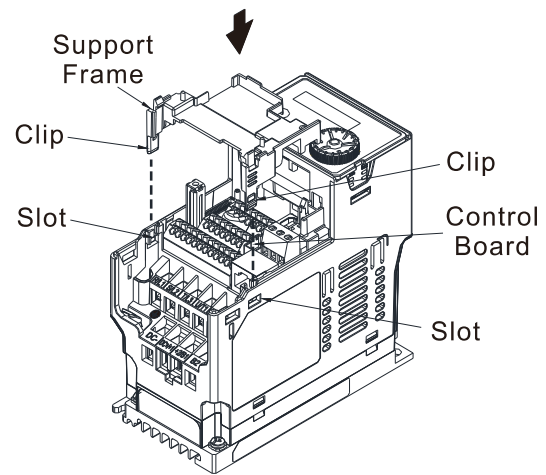

Figure 8-22
3. Assembling support frame: as shown in the Figure 8-22, aim the two clips at the two slots on the motor drive and then press downward to have the two clips engage the slots.